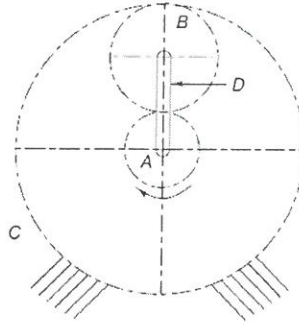

Fig. 4b
- (b) A planetary gear train is shown in fig. 4b. The sun gear A rotates in a clockwise direction and transmits 5 kW of power at 1440 rpm to the gear train. The number of teeth on the sun gear A, the planet gear B and the fixed ring gear C are 30, 60 and 150 respectively. The module is 4 mm and the pressure angle is 20° . Draw a free-body diagram of forces and calculate the torque that the arm D can deliver to its output shaft.